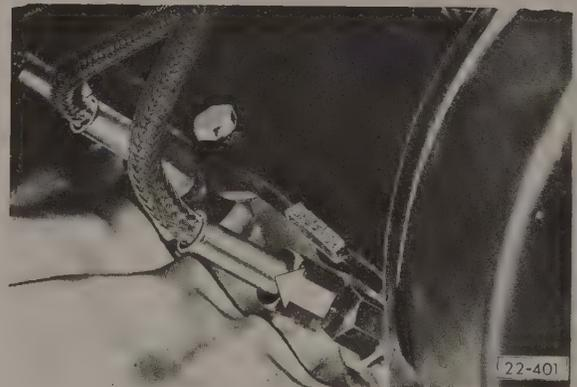

Fig. 4-26. CIS and CIS-E fuel injectors. Remove by pulling straight out (arrow). Do not pull on fuel line.
The fuel injectors must be removed for inspection or testing. As described above, the injectors are held in the inserts by thick rubber O-rings. To remove the injectors simply pull them straight out, forcing them out of the O-rings, as indicated in Fig. 4-26. Leave the fuel lines attached. Pull straight and pull only on the injectors themselves, not on the fuel lines.
1. Remove one injector, leaving the fuel hose connected, as shown in Fig. 4-26 above. Aim the removed injector into a fuel-resistant container.